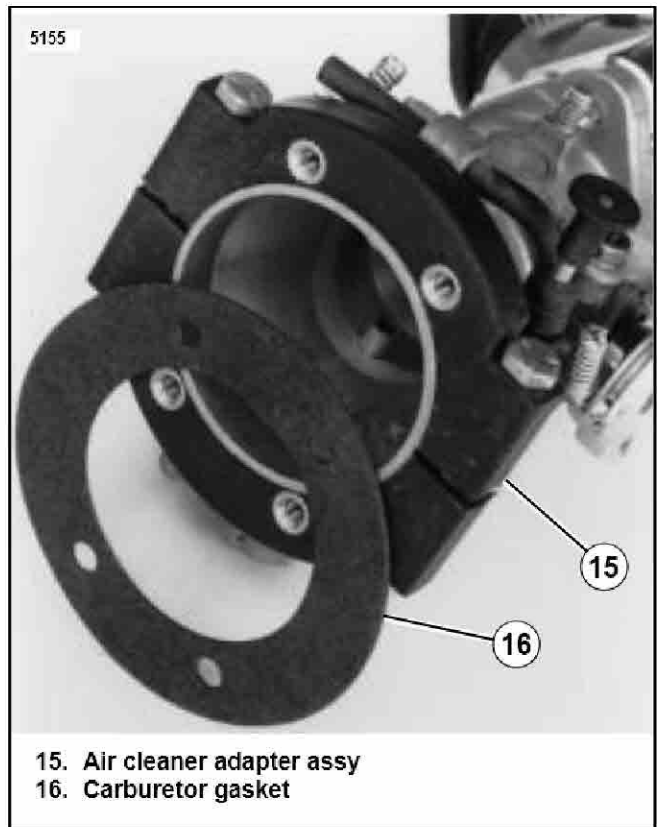

Figure 4. Air Cleaner Adapter and Carburetor Gasket
9. See Figure 4. Install the air cleaner adapter (15) on the carburetor throat. Do not tighten bolts at this time.
10. See Figure 4 and 5. Assemble carburetor gasket (16), backplate (20) and venturi (22) to the air cleaner adapter (16), using the button head screws (2). Use Loctite 271 (red) and tighten the air cleaner adapter bolts (5) and nuts (11).